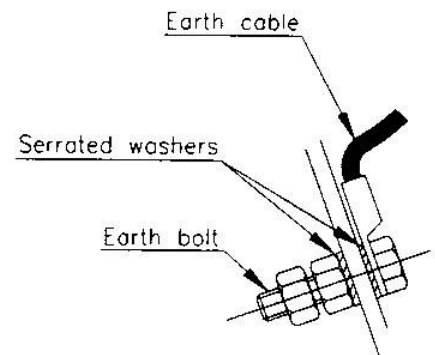

Fig. 12
7. Connect the earth cable to the earth bolt in the firebox side, ensuring that the serrated washers are fitted as shown in Fig. 12.